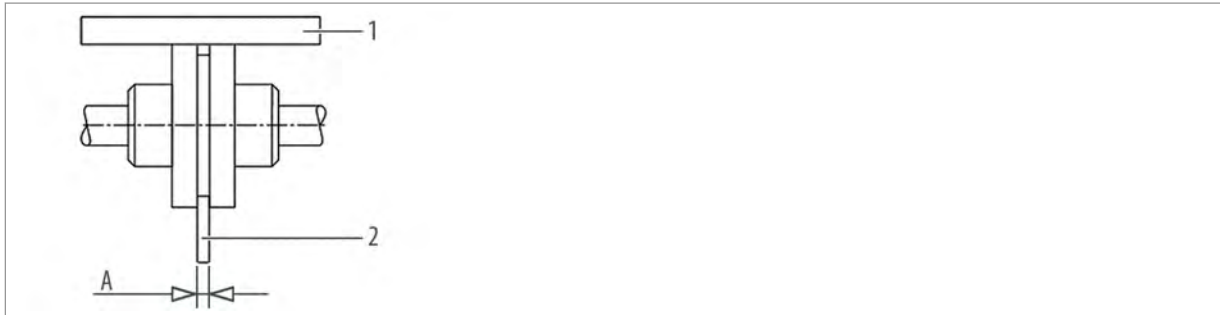

Fig. 19: Checking the coupling alignment
2. → Check the gap to the outer diameter with a straight-edge (no. 1 in Fig. 19):
3. → Check gap dimension with a feeler gauge (no. 2 in Fig. 19):